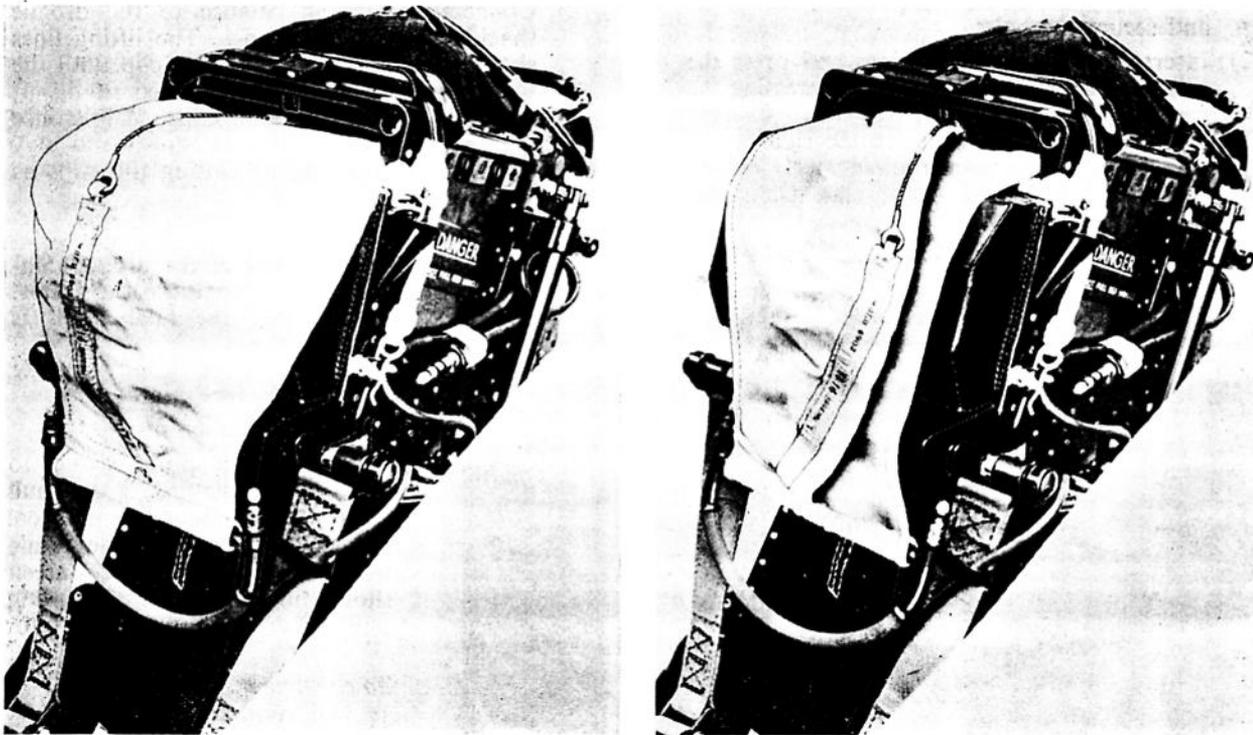

Fig. 4. Folding the face screen
- (2) Push the fullness up into convex form (left-hand diagram, fig. 4).
- (3) Form a longitudinal crease just right of the centre line.
- (4) Fold the centre bulk to lie on the right edge of the screen so that the edges are roughly parallel and the cable anchorage is proud (right-hand diagram, fig. 4). The face screen is now in three thicknesses on the right and one on the left.
- (5) Carefully retaining this fold, roll the screen over the lower